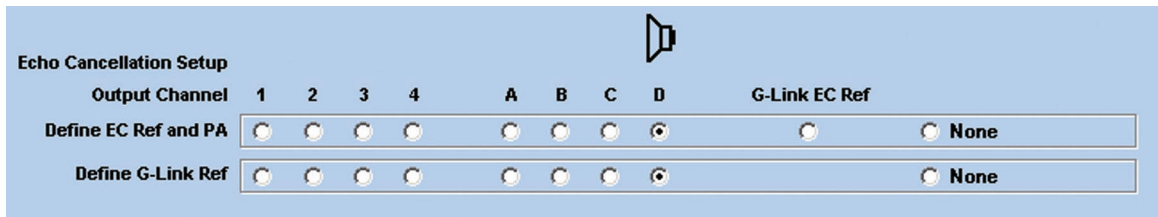

Figure 2.22. EC setup for multiple units to one output (master-unit example matrix)
This bus provides a system-wide echo canceller reference signal. When multiple AP units are linked together and will be using only one output channel to drive the speaker system, that output must be defined as the sample reference which will be used by all of the linked AP units for echo cancellation. It allows the reference signal to be passed to additional G-Linked mic channels and their associated echo cancellers. For echo cancellation to function properly, the output that the master unit will use as the EC reference must be identified to the slave units through the G-Link (see Figures 2.22 and 2.23 for Routing configuration). The following example illustrates the echo cancellation setup necessary to communicate the EC reference from the master unit to the slave unit:
“Define EC Ref and PA” tells the master unit which output (in this case output D) will be used as the reference for echo cancellation for the master unit. This output (D) must also be defined as the “G-Link EC Ref bus” which slave units will refer to when you are defining their EC references (see Figure 2.22).